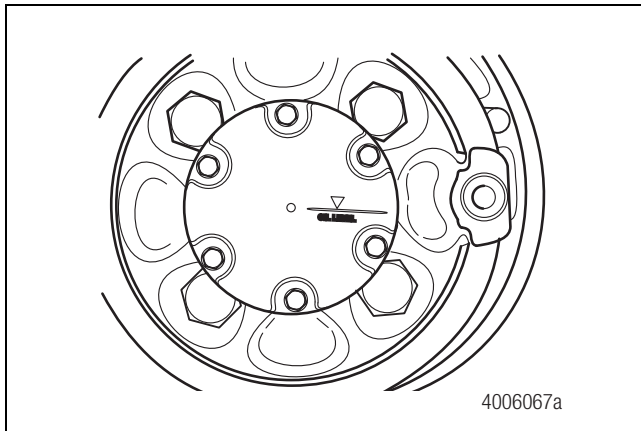

Figure 11.17
8. Align the "Oil Level" line on the cover plate with the drain/fill plug. Install the cover plate onto the hub housing immediately to ensure the silicone gasket material compresses evenly between the sealing surfaces. Figure 11.17.